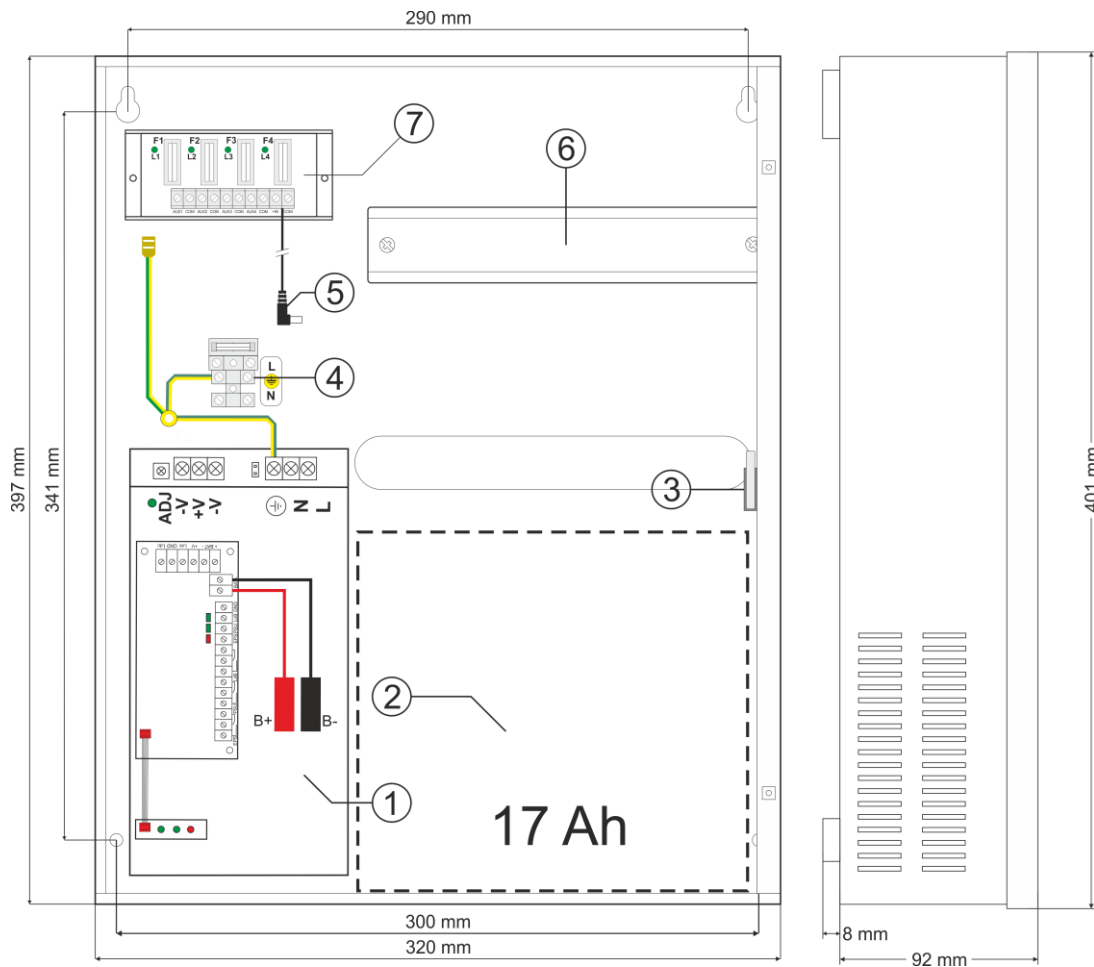

Fig.2. The view of the PSU.
1.3 Description of PSU components and connectors (tab.1, fig.2).
Element [Fig. 2]	Description
- red LED (Fig.2, element 1) normal status (AC power): permanently illuminated. AC power absence is indicated by the AC diode going out.
- green LED (Fig.2, element 2) indicates DC power at the PSU output. Under normal status the diode is permanently illuminated. In case of a short circuit or an overload, the diode is off.
- green LED (Fig.2, element 3) indicates battery voltage level. Under normal status ( $U_{BAT} > 11,5$  V) the diode is permanently illuminated. In case of decrease of battery voltage ( $U_{BAT} < 11,5$  V) the diode is off.
**CAUTION!** In Fig.2. the contact set in the potential-free status corresponds to a state with no AC power (AC power failure).
**CAUTION!** In the Fig.2. the set of contacts shows a potential-free status of the relay which corresponds to a state with no DC power (PSU failure).